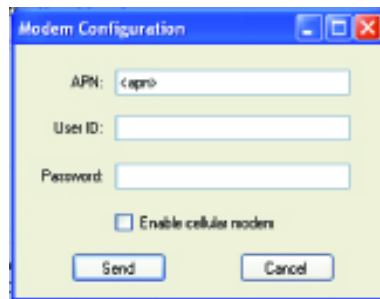

Figure 2 - 14. Modem Configuration Window
11. Select the **Settings....** button, see Figure 2 - 13. The Modem Configuration window will open.